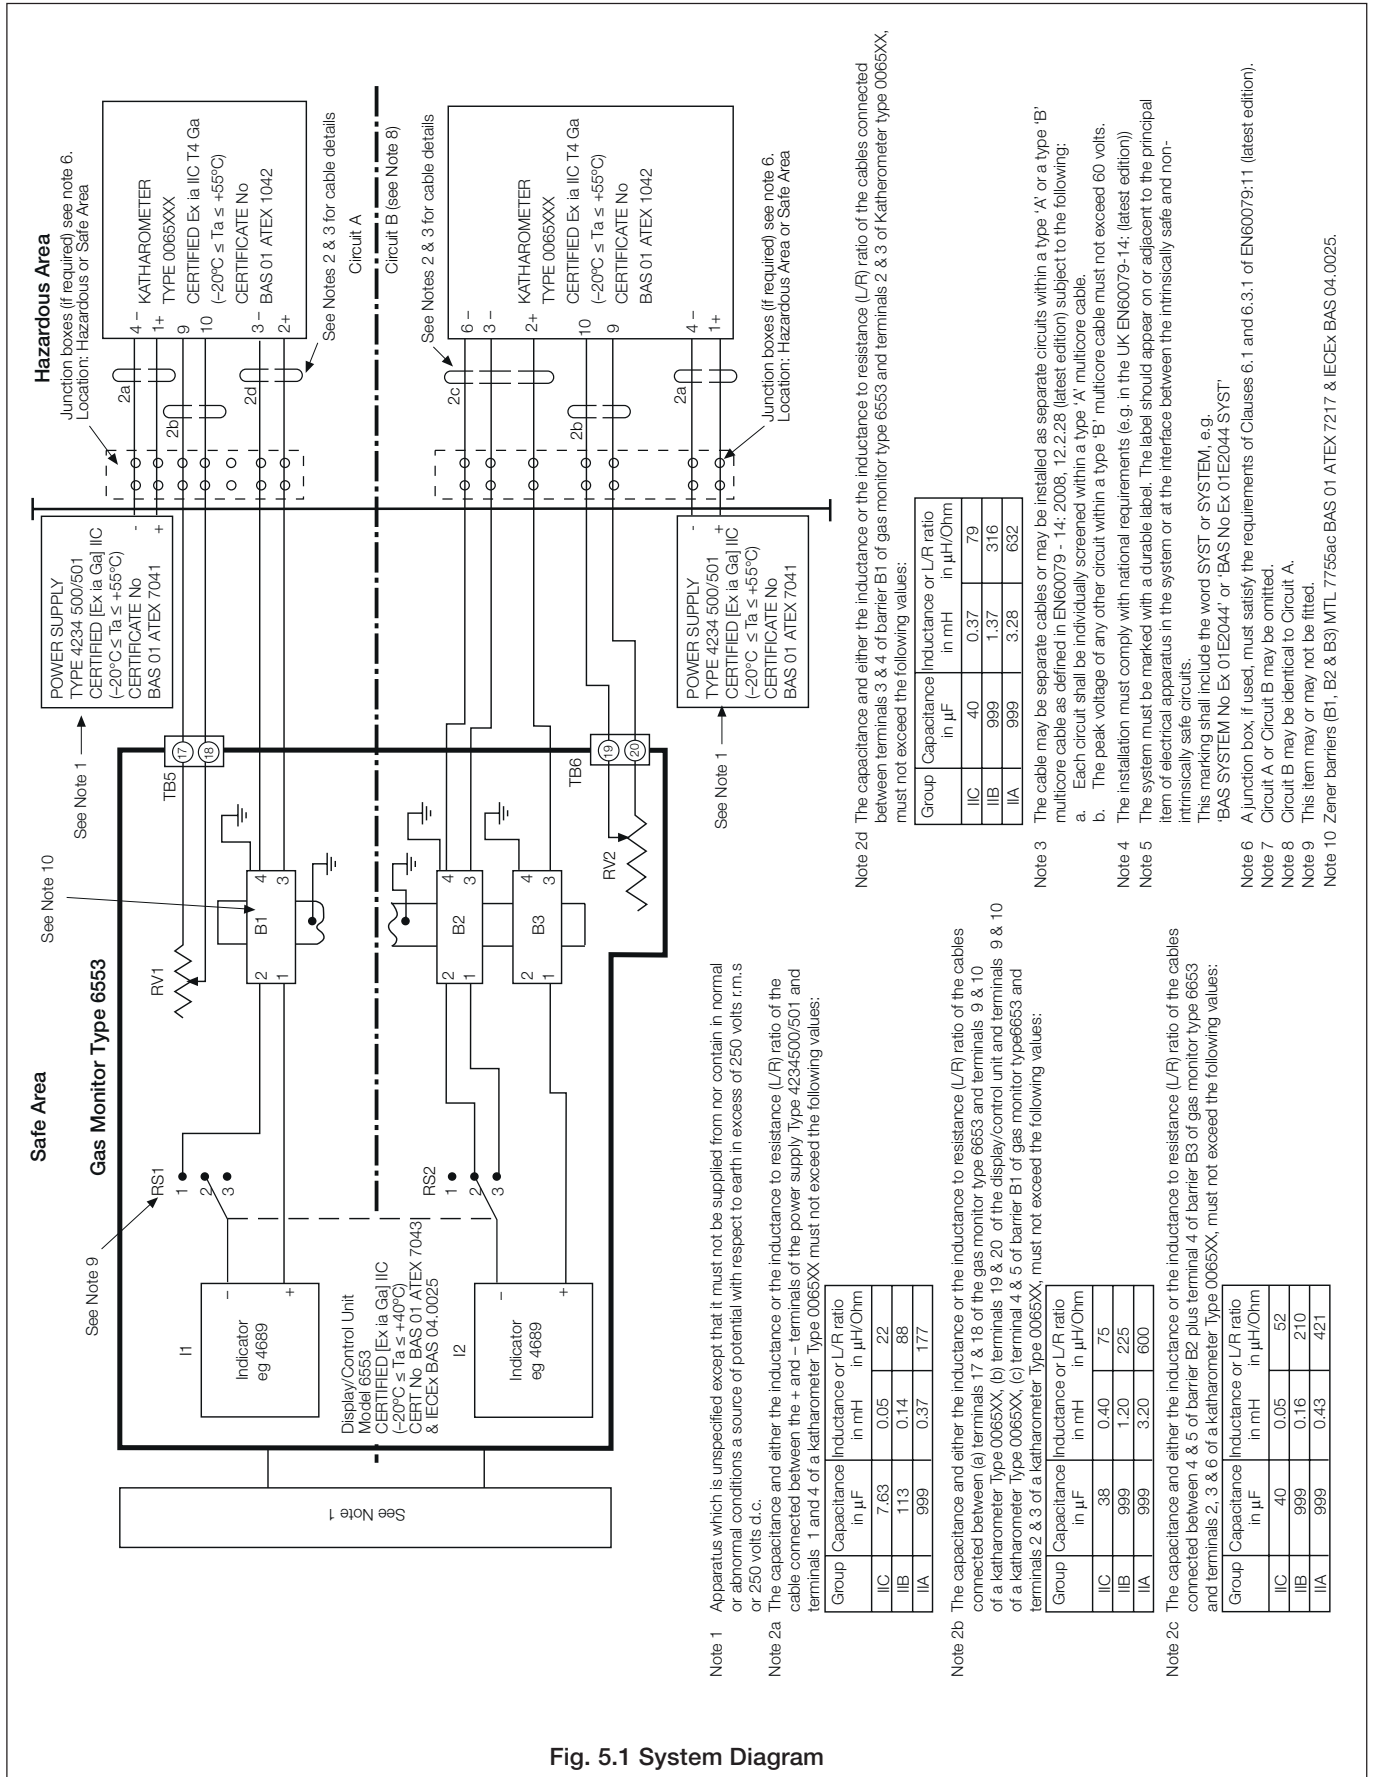

Fig. 5.1 System Diagram
5.1 Electrical Interconnections – Fig. 5.1
Fig. 5.1 shows the interconnecting wiring requirements for the AK10x Gas Analyzer system, that must be strictly observed. Details of cable requirements, that must be strictly adhered to, are also given – see Section 5.2.1.
Make electrical connections in accordance with the information given in the wiring diagrams Figs 5.1 and 5.3 and the cable details in Section 5.2.1.
The interconnecting cables between the various units of the gas analysis system are subject to stringent limitations because of the requirements of the intrinsic safety certification. These are listed below and detailed in Fig. 5.1.
All cables from the Katharometer in the hazardous area must have an inductance/resistance ratio not exceeding $22\mu\text{H}/\Omega$ (for Group IIC gases). Refer also to Fig. 5.1 Note 2a. Also the maximum loop resistance of this interconnecting cable is limited to 1.5Ω ; this may place a limitation on the length of the total cable run. These wires are indicated by a ▲ in Fig. 5.3.
Katharometer to display unit cables, carrying the output signals through zener barrier units inside the display unit, are subject to a maximum inductance/resistance ratio of $79\mu\text{H}/\Omega$ (for group IIC gases). Refer also to Fig. 5.1 Note 2d. These wires are indicated by a ▲ in Fig. 5.3.
Katharometer 9 and 10 to 6553 Display Unit terminals TB5 and TB6 cables are subject to a maximum inductance/resistance ratio $75\mu\text{H}/\Omega$. Refer also to Fig. 5.1 Note 2b. These wires are indicated by a ▲ in Fig. 5.3.
The choice of wiring cable is restricted by the limitations imposed by the certification parameters. Care must be taken to ensure that the specification of the cable required for interconnection lengths is such that the certification parameter limits are not exceeded – see Fig. 5.1 Notes 2a, b, c & d and also Notes 3 & 4.
- 1) The total Capacitance and Inductance or Inductance to Resistance ratio (L/R) of the cables connecting the katharometer unit to the hazardous area terminals of the display unit (TB2) and power supply unit terminals (TB1) must not exceed the values in Fig. 5.1.